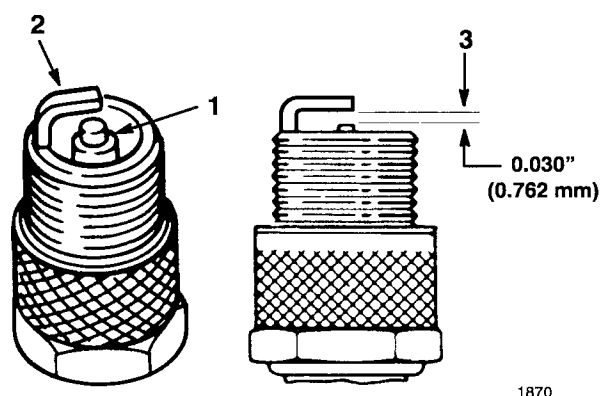

Figure 23
1. Look at the center of the spark plug (Fig. 23). If you see light brown or gray on the insulator, the engine is operating properly. A black coating on the insulator usually means the air cleaner is dirty.
2. Check the gap between the center and side electrodes (Fig. 23). Bend the side electrode (Fig. 23) if the gap is not correct.